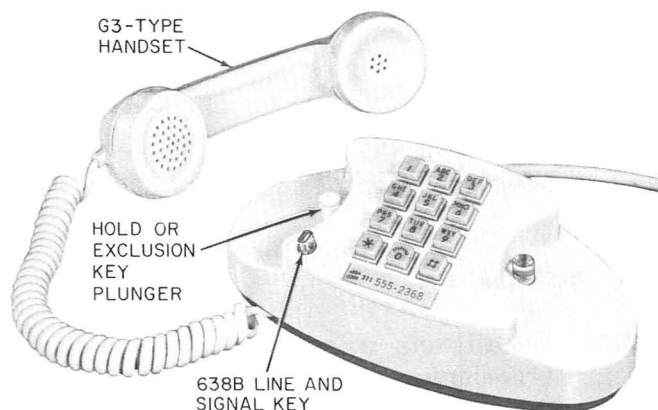
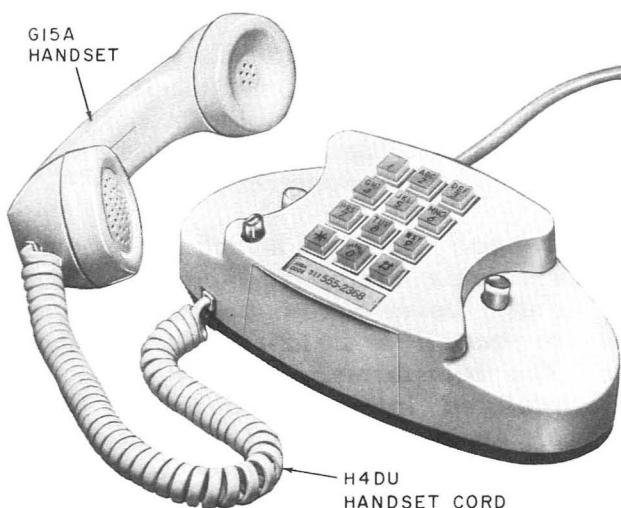

Fig. 1—2712B Telephone Set
Fig. 2—2712BM Telephone Set
**2.05** The 2712B (nonmodular, Fig. 1) and the 2712BM (modular, Fig. 2) telephone sets are both equipped with a 638E key for line selection and signaling.